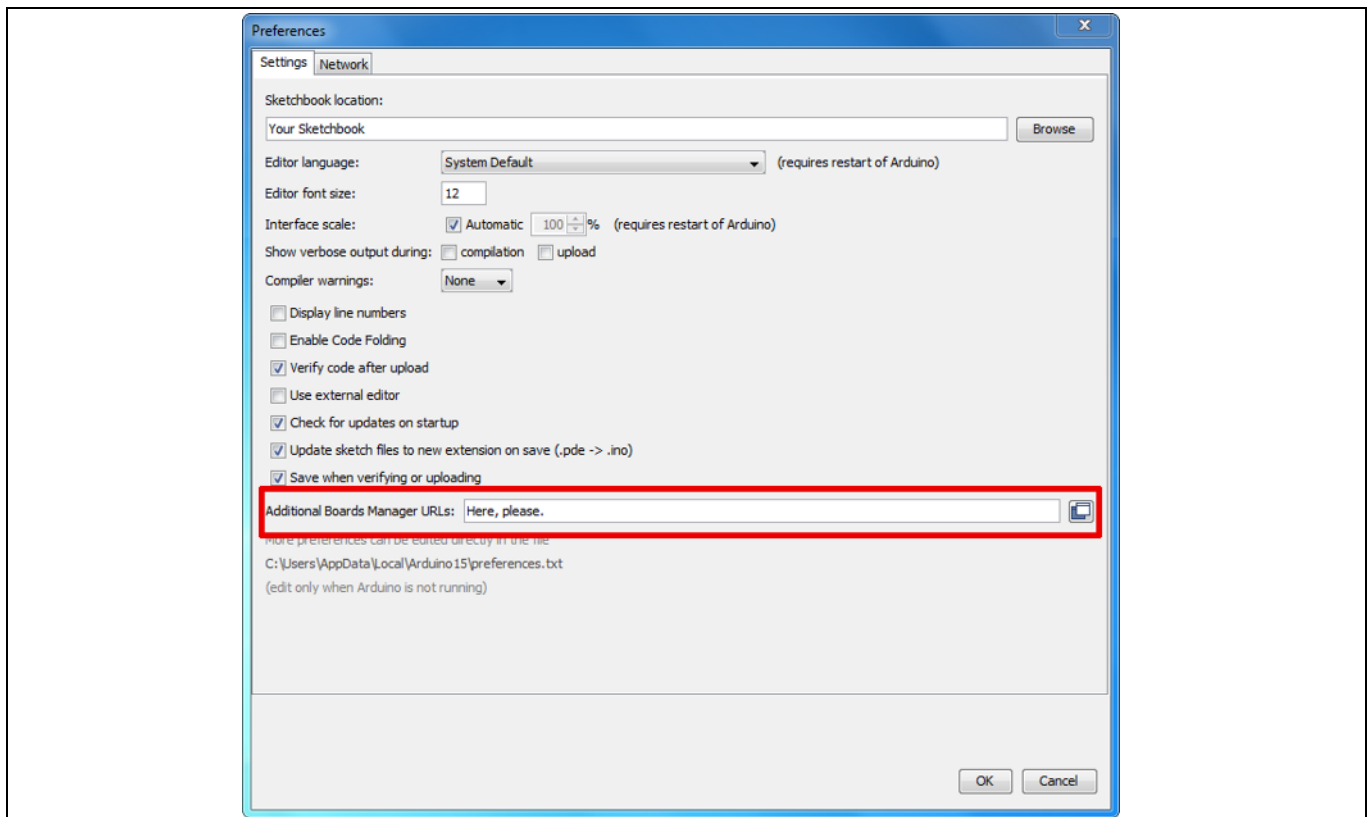

Figure 8 Entering the location from which the package can be downloaded
3. Copy the following URL into the “Additional Boards Manager URLs” field (Figure 8):